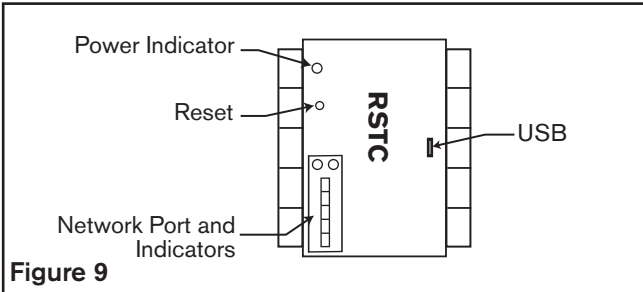

Figure 9
3. Connect the USB cable between computer and RSTC (Refer to Figure 9).
4. Turn on 24 VDC power supply, Power indicator will be on (Refer to Figure 9).